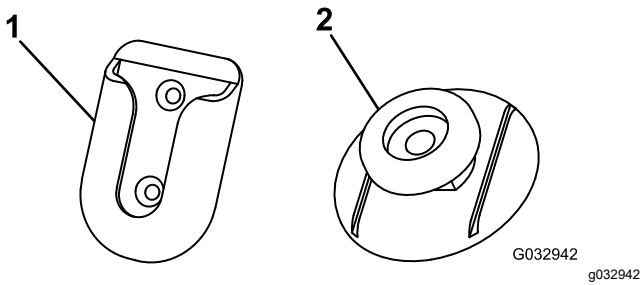

Figure 18
3. Clean the back of the swivel mount (Figure 18) with the alcohol wipe and then dry it.
7. Remove the backing from 1 side of the adhesive and apply it to the back of the mounting tab (Figure 18).